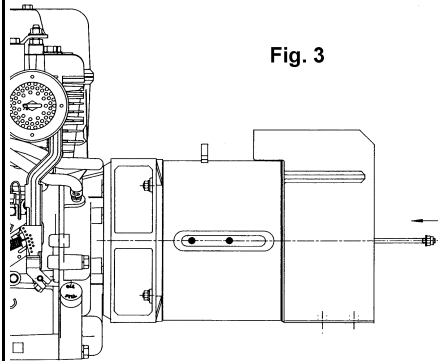

Fig. 3
-) insert the central bolt into its housing and screw the nut (figure 3)
SPANNUNGSREGLER (Abb. 3 Seite 35)